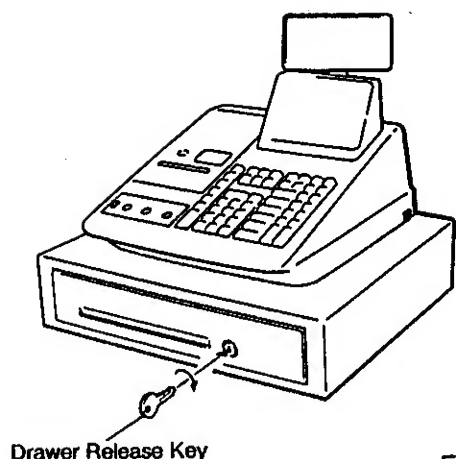

Fig. 1
1. Insert the Drawer Release Key into the Drawer Release Lock and turn the key clockwise. The drawer will now open. (Fig. 1)